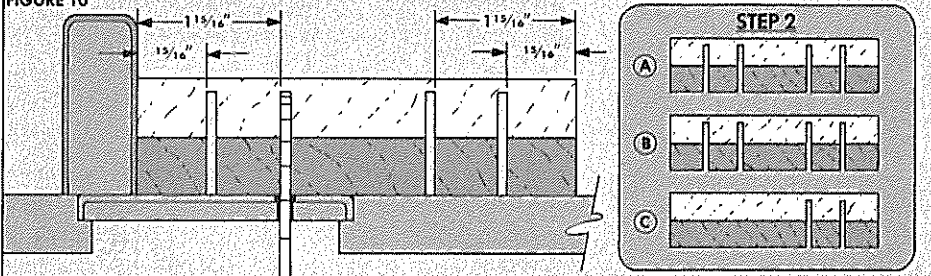
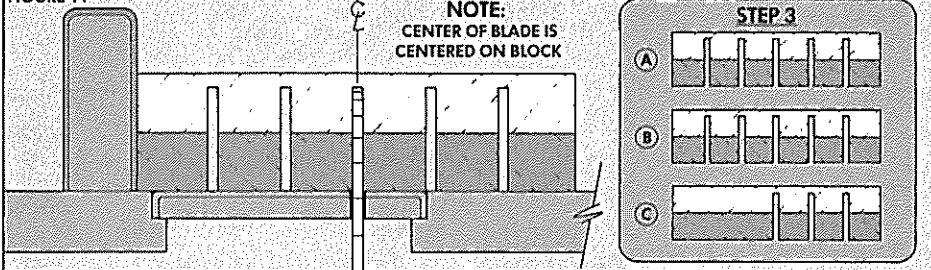

FIGURE 11
FIGURE 12
Next, add another spacer block and make a second horizontal pass working from left to right, see Fig. 11.
To determine the width of the stop block, place the V-groove bit in the second horizontal groove and measure the distance from the router base plate to the bottom fence, see Fig. 12. (Mine measured  $6\frac{1}{4}$ ".) Then cut the stop block to this width and to length to fit between the side fences.
Since a groove is needed on one edge of the back block (C) for the sharpening rod, cut the knife slit along the other edge only. When cutting, the curved edge enters the saw blade first, see Fig. 12.
**CENTER KERF.** The final kerf is centered on the blocks. Set the saw so the center of the blade will cut directly through the center of the blocks, see Fig. 11.
**KERFING THE BACK PIECE.** Since the back (D) is only  $\frac{15}{16}$ " thick, the blade must be lowered to  $\frac{3}{4}$ " above the table before making any kerfs in it.
The kerfs in the back (D) must align exactly with those in the back block (C), so I used the back block as a set-up gauge, see Fig. 12. Put the saw blade into the first kerf in the back block, then bring the rip fence over tight against the side of the block and lock down the fence.